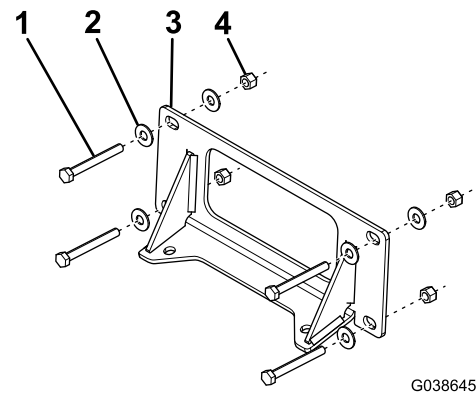

Figure 2
7. Secure the top plate to the vehicle skidplate using 4 long bolts (5/16 inch), 6 washers (5/16 inch), and 4 nuts (5/16 inch), and leave the fasteners finger-tight (Figure 2).